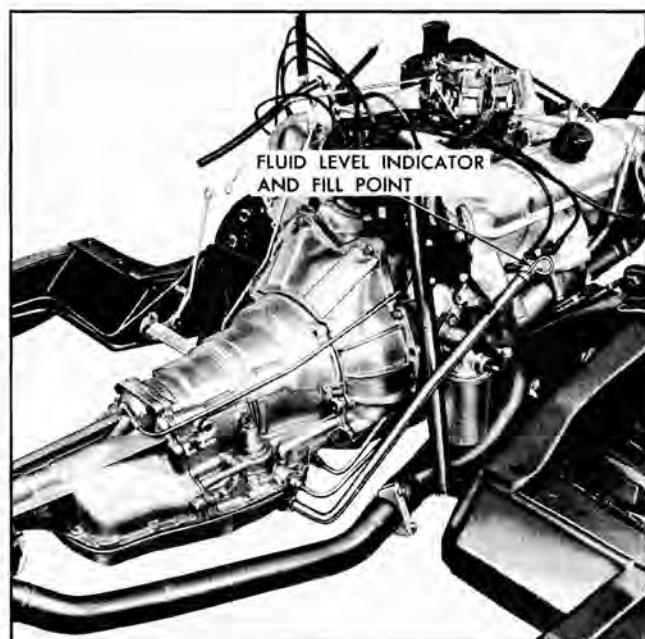
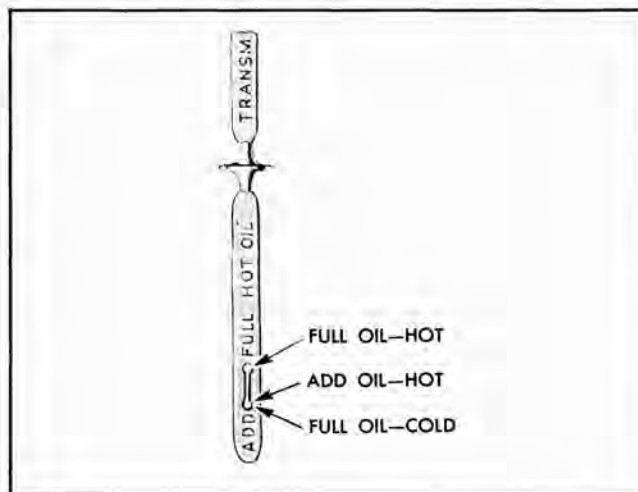

Fig. 32 Fluid Level Indicator
Fig. 33 Indicator Markings
The fluid level indicator is located in the filler pipe at the right rear corner of the engine (Fig. 32). To
bring fluid level from lower mark to full mark requires 1 pint (Fig. 33).
2. With engine idling at normal idle speed, check oil level indicator (Fig. 32) and note reading (Fig. 33). **NOTE:** When adding fluid use Automatic Transmission Fluid AQ-ATF (Type A).